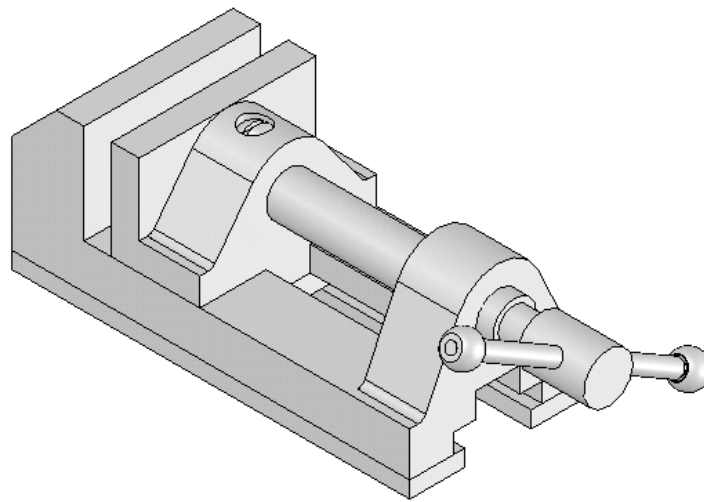
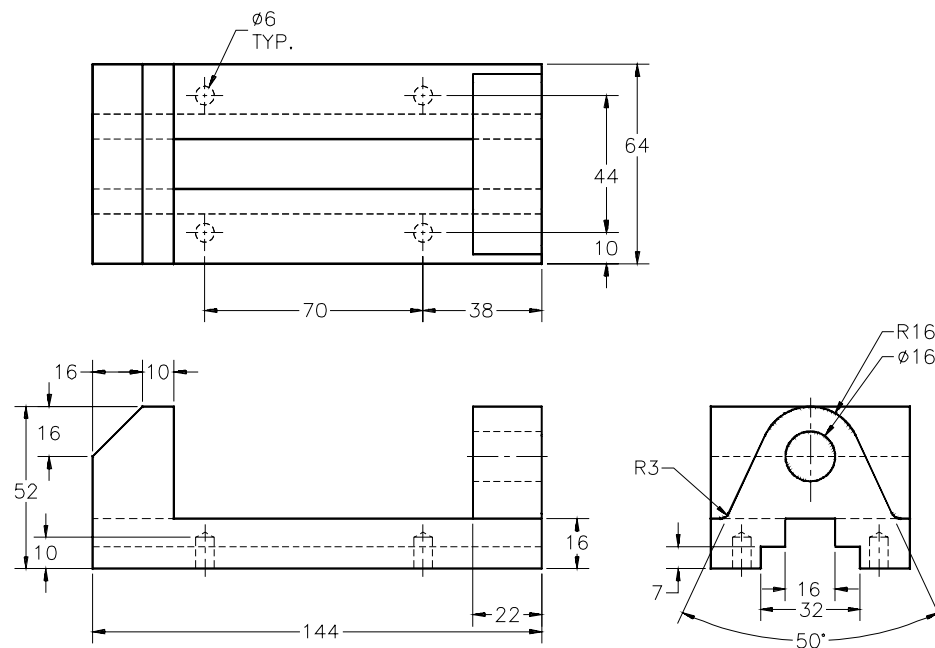

Figure 12-51 Bench Vice assembly
Figure 12-52 Views and dimensions of the Vice Body
In this tutorial, you will create all components of the Bench Vice and then assemble them. The Bench Vice assembly is shown in Figure 12-51. The dimensions of various components of the assembly are given in Figures 12-52 through 12-55. **(Expected time: 2 hrs 45 min)**
- Create all the components of the Bench Vice assembly as separate part documents. Specify the names of the documents as shown in Figures 12-52 through 12-55. The files should be saved in the folder `\My Documents\SolidWorks\c12\Bench Vice`. Make sure that the *Bench Vice* is your current folder.